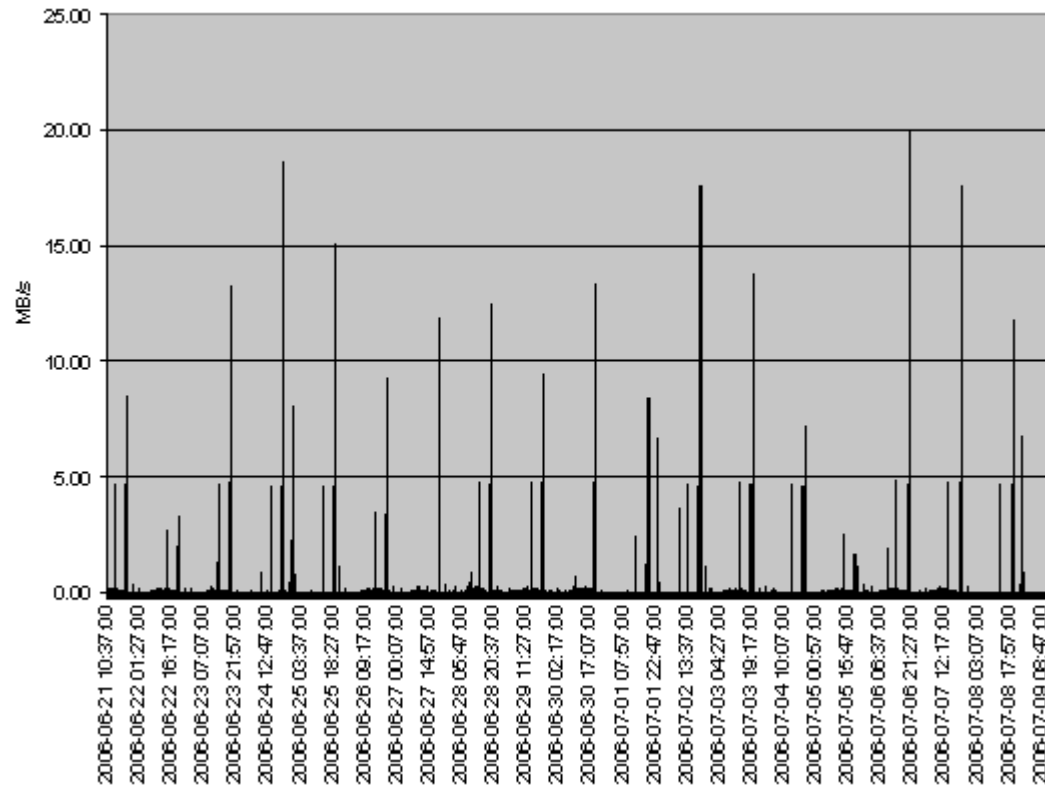

Figure 14-6: Data throughput in MB/sec
2. At the end of the period, convert the data to MB-per-second, if it is not already so. Import the data into a spreadsheet tool. Figure 14-6 on page 14-29 shows graphed data throughput in MB per second.